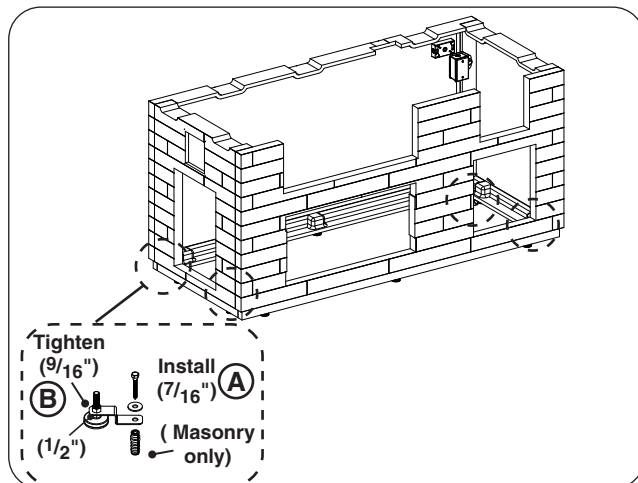

Fig. 8-4 Mount island
1. Secure the island to the floor using the 4 pre-installed mounting brackets. Use a $7/16$ " open end wrench and the supplied mounting hardware as appropriate. See Fig. 8-4, A.
Finish by tightening down the brackets. Hold a leveler in place (below bracket) with a $1/2$ " open end wrench, and tighten the nut (above bracket) using a $9/16$ " open end wrench. See Fig. 8-4, B.